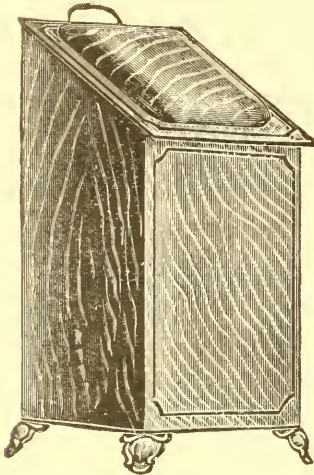

FIG. 3.—A suitable form of bin for storing soils in school and college laboratories.
1. Obtain from the field or from soil supplies in the laboratory, samples of the following soils: sand, sandy loam, loam, clay and muck (Figs. 3 and 4).